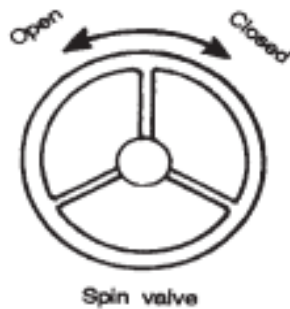

Figure 1
2. Open the spin valve by turning it anti-clockwise until fully open (see Figure 1).